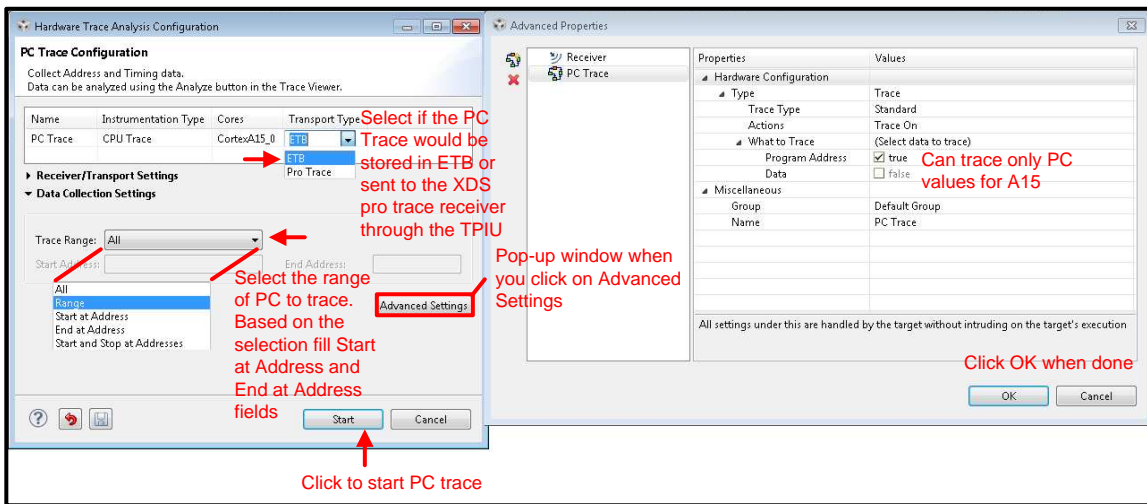

Figure 21. Cortex-A15 PC Trace Hardware Trace Analysis Configuration and Advanced Properties Windows
- This action opens a pop up window that can be used to further configure the PC trace feature. **Figure 21** shows the Cortex-A15 PC trace hardware trace analysis configuration and Advanced Properties windows.